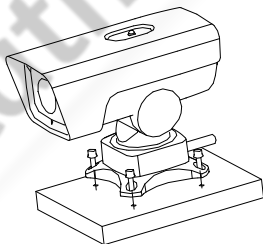

Figure 2-53 Install Base-mounted Camera
2. Insert four M6 hexagon socket screws (with length of 30 mm) through the camera bracket and the plane structure, and then lock the screw nuts to fix the camera, as shown in Figure 2-53.